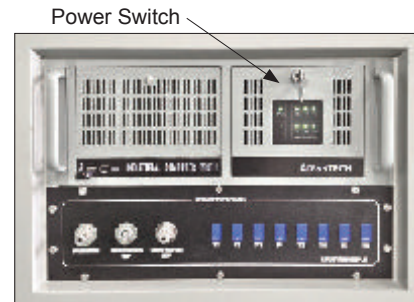

Figure 5-12 SEC PC Power Switch
- 4) Turn on the main power switch (Fig. 5-12) on the right side of the instrument.